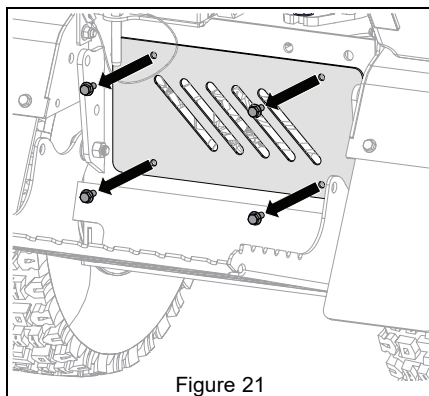

Figure 21
2. Remove and retain hex bolts securing rear access panel to frame. Remove access panel. See Figure 21.